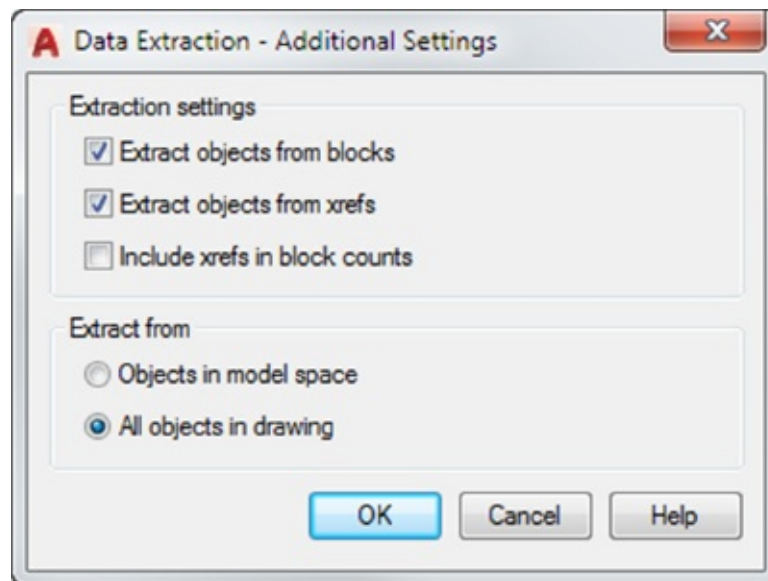

FIGURE 12.16 Additional settings
3. Click Settings to view other options. These options (see Figure 12.16) let you further refine the content of your extraction.